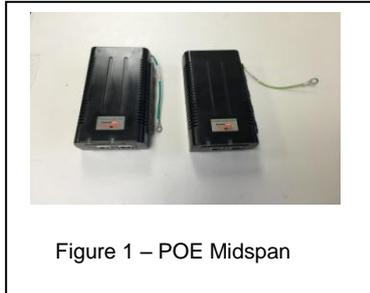

Figure 1 – POE Midspan
- Power over Ethernet Mid-Span: PowerDsine™ 9001G-40/SP See pictures in Figure 1
- 6.2 Two POEs for power supply, see Figure 1